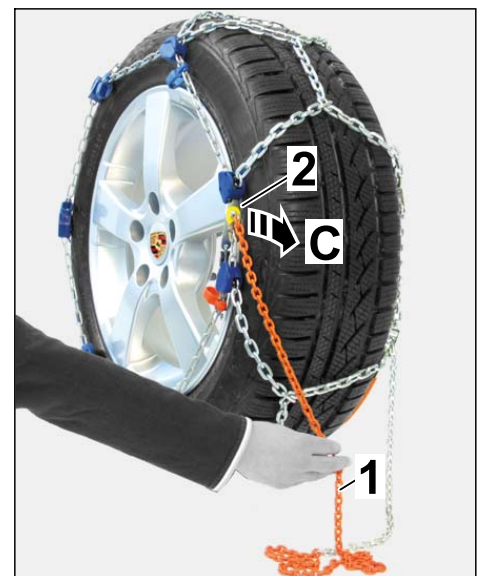

Figure 17
3.3.4 Disengage the chain link at the locking plate and pull the tensioning chain through the locking plate (⇒ *Figure 17-C*).